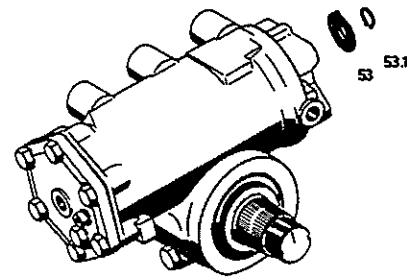

Fig.56
Slip protecting cap (53) onto the worm stub and fit retaining ring (53.1) (*Fig.56*).
19.3 Fit dust seal (314)